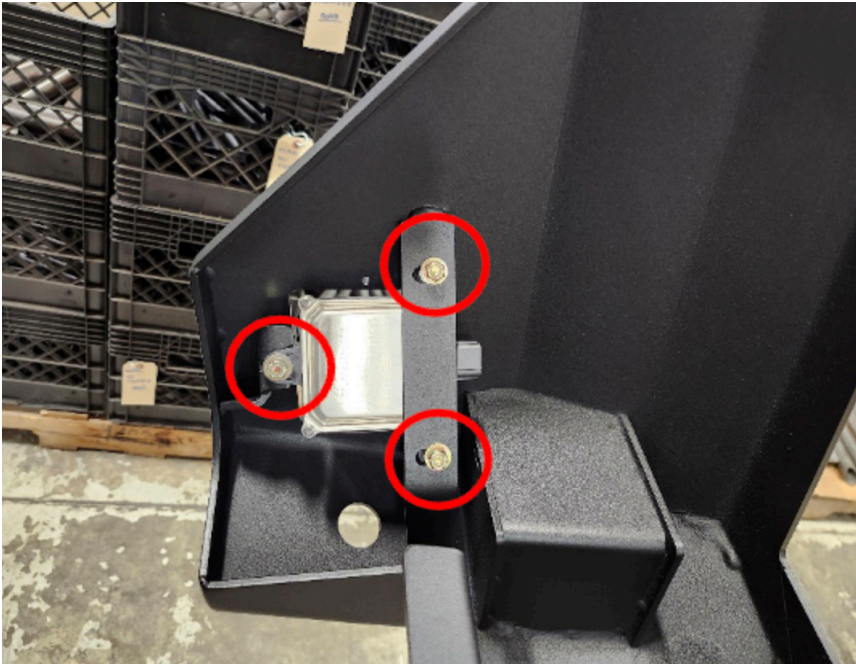

Figure 10
11. Using three (3) ¼" bolts, ¼" nuts and six (6) flat washers (50494-HW), install blind spot monitoring sensors into bumper (23317) by aligning three holes in sensor with holes in brackets on inside of bumper. Use 7/16" socket and wrench to tighten. (Figure 10)